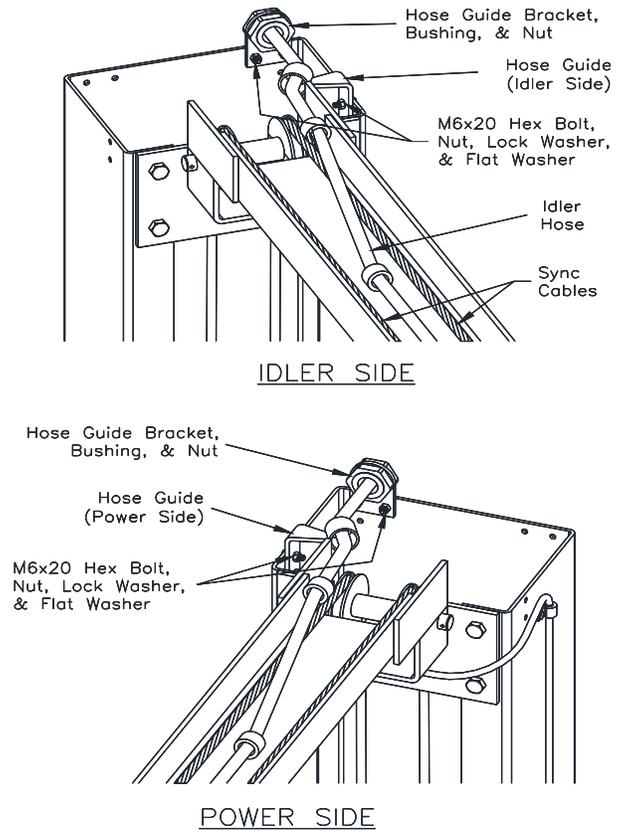

**Fig. 6 – Hose Routing**
- 19) Mount Power Unit to power column as shown in **Fig. 6** using (4) M8 hex bolts and nuts.
- 24) Route the power hose from the cylinder elbow fitting to the union tee provided. Connect idler hose and power unit hose to union tee as shown in **Fig. 6**.
- 25) Use hose clamps and M8 Screws to secure hydraulic hoses as shown in **Figure 6**.